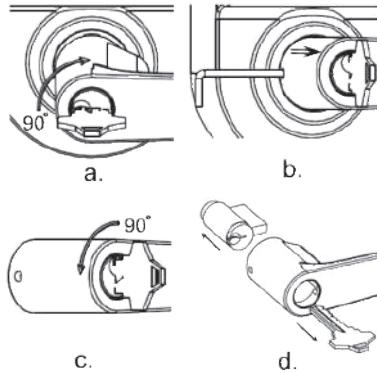

fig. 10
3.6 Remove Lever (if necessary): Insert key into Cylinder then rotate key CLOCKWISE 90°, use Allen Wrench or paper clip to push Lever Catch in then pull lever out (see fig.10). Rotate key COUNTER CLOCKWISE 90° then take key out. Use Flathead Screwdriver to rotate Cylindrical Protrusions, the Lever Catch will protrude. Take the Lever Catch out, keep it in safe place.